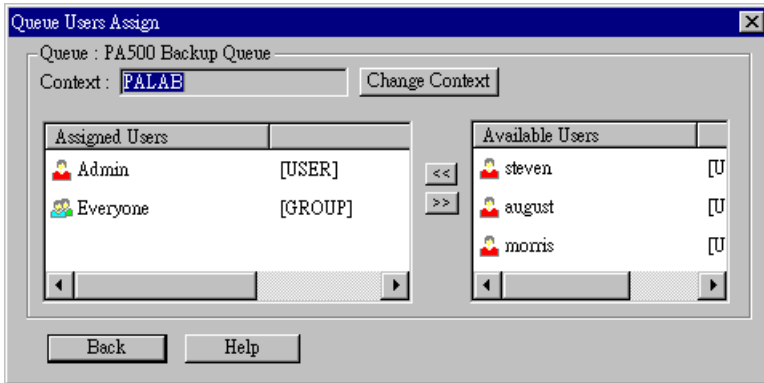

Figure 25: Assign Users to Queue (NDS PS mode)
- **User** - Assign Users to the NetWare Print Server object. (Optional) These users will then be able to view the status of the NetWare Print Server object. This is optional; printing requires only that users be assigned to queues, not to the NetWare Print Server. The screen for assigning users to a NetWare Print Server is identical to *Figure 25: Assign Users to Queue (NDS PS mode)*